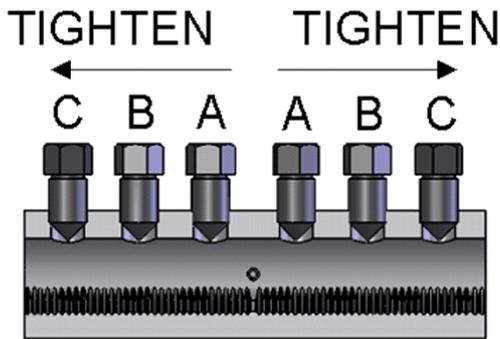

Figure 1 Assembly cross section
Step 1: Read all instructions and procedures before commencing splicing. Ensure the LENTON LOCK coupler is sized properly for the bars being spliced and per project plans. Product should arrive with bolts configured as shown in Figure 1. One round point bolt will be on each end of sizes 43(#14) and 57(#18).